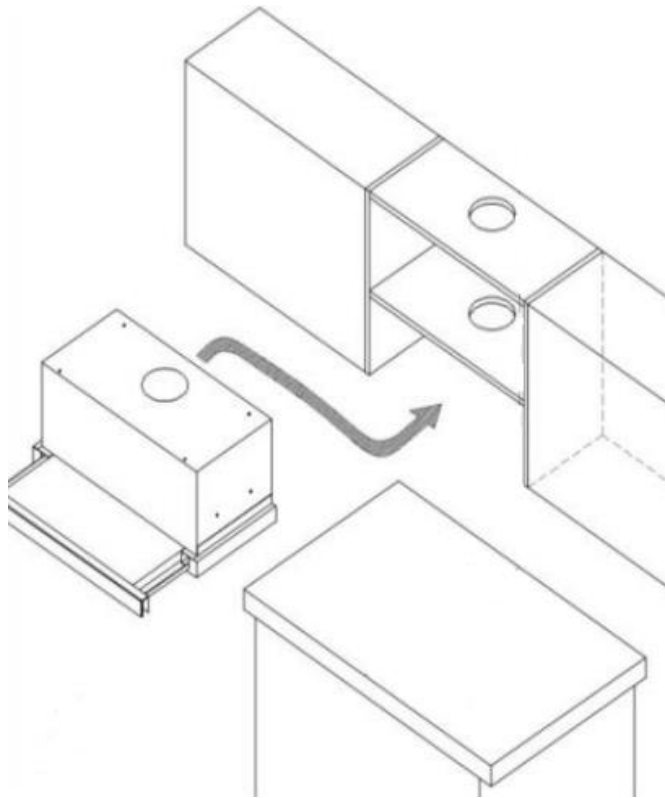

Fig. 19
- Put the hood into the previously prepared cabinet (Fig. 19),